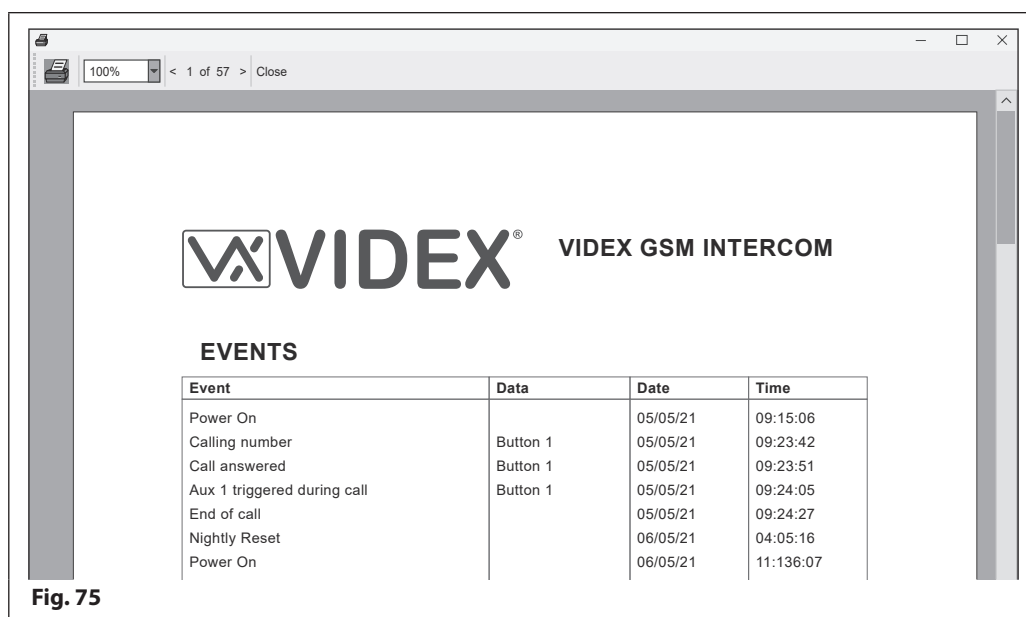

Fig. 75
- After a brief delay the print window will appear, see Fig.75, displaying the list of events. Use the left (<) and right (>) buttons at the top of the window to scroll through the pages of events.